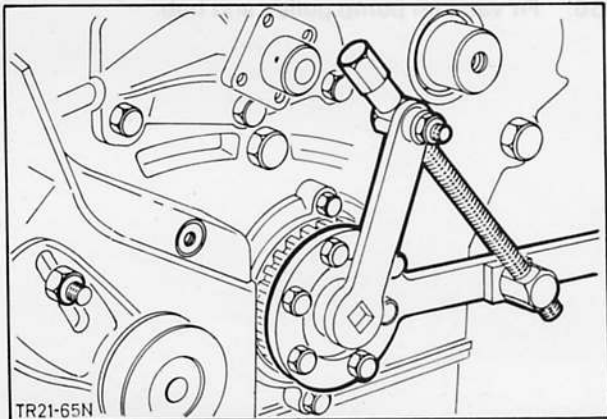

Fig. 83. Secure crankshaft journal bolt using Special Tool 21-018/019
62. Fit crankshaft journal centre bolt hand-tight and using Special Tool 21-018/019 torque as specified in Technical Data, Fig. 83.